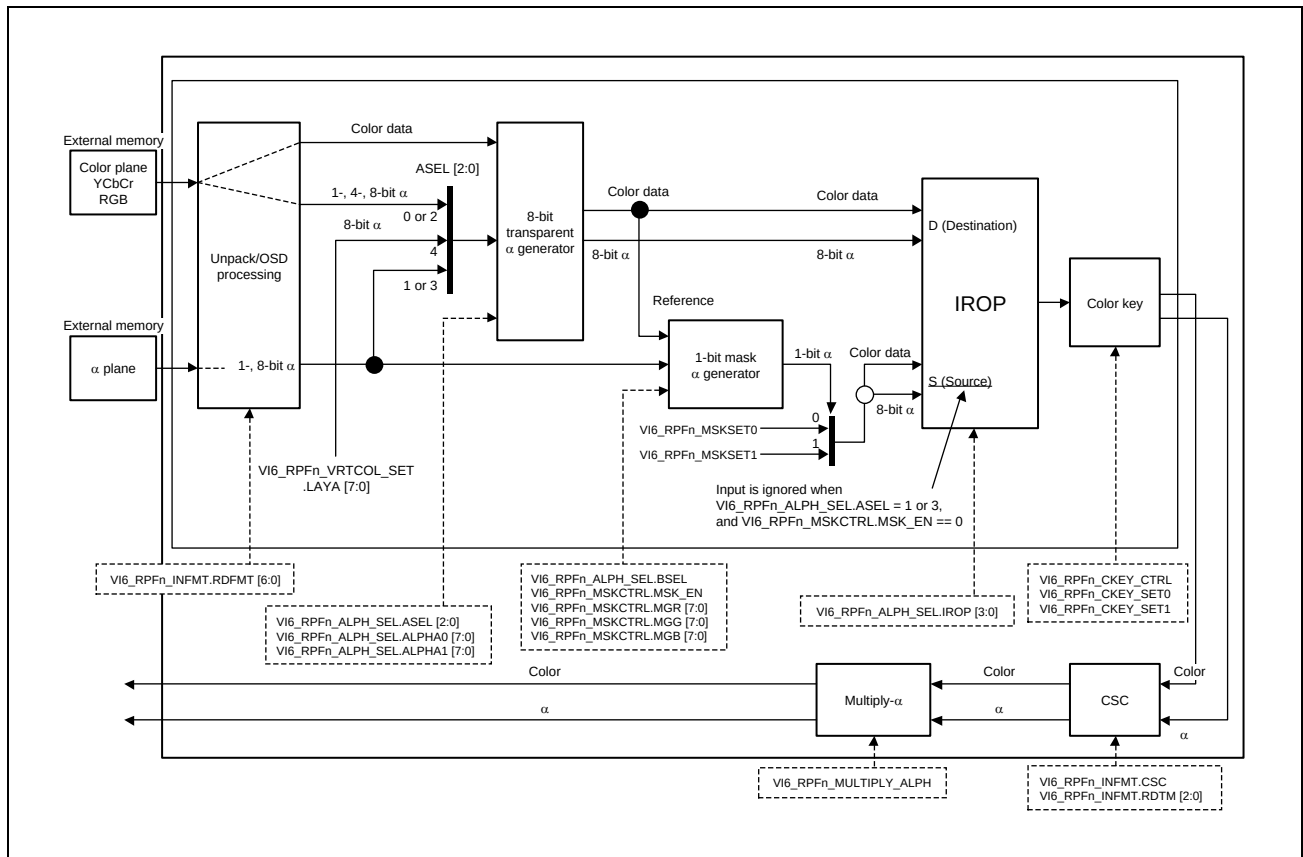

Figure 9.4-14 Configuration of alpha Selector and IROP Operation Unit in RPF
2h: 1-bit packed α + plane α (IROP != 0, 5, 10, 15) The 1-bit packed α input is converted by the 8-bit transparent α generator shown in Figure 9.4-14 according to the ALPHA0/1 setting into the 8-bit α value as transparency information. Select the packed input format that includes a 1-bit α field. When VI6_RPFn_MSKCTRL.MSK_EN is 0b and the IROP value is not 0, 5, 10, or 15, the α plane should be read as mask information. Specify the number of α data bits (BSEL) stored in the α plane and the α plane read start address (VI6_RPFn_SRCM_ADDR_AI). When the IROP bits are set to 0, 5, 10, or 15, the α plane is not read. 3h: 1-bit plane α The 1-bit α plane is read from external RAM and converted by the 8-bit transparent α generator shown in Figure 9.4-14 according to the ALPHA0/1 setting into the 8-bit α value as transparency information. When the packed RGB format has a bit field for α, the information in the α bit field is discarded. The α plane read start address (VI6_RPFn_SRCM_ADDR_AI) should be specified. When VI6_RPFn_MSKCTRL.MSK_EN is 0b, IROP operation cannot be executed; set the IROP bits to 0b in this case. When VI6_RPFn_MSKCTRL.MSK_EN is 1b, IROP operation can be executed. 4h: Fixed α The fixed α value (VI6_RPFn_VRTCOL_SET.LAYA value) is output from the RPF. IROP operation cannot be executed; set the IROP bits to 0 in this case. 5 to 7: Setting prohibited.
Figure 9.4-14 shows the relationship between the α selector, IROP operation unit, color keying unit, and related registers. The IROP operation unit receives two inputs, source and destination. The image data input from the external memory is processed through the unpack processor and 8-bit transparent α generator and then input to the IROP operation unit as destination data. The α plane data input from the external memory is sent to the 8-bit transparent α generator when the ASEL bits are set to 1 or 3, or sent to the 1-bit mask α generator when the ASEL bits are set to 0 or 2. For the pixel data and 8-bit α value on the source side of the IROP operation unit, either the VI6_RPFn_MSKSET0 value or VI6_RPFn_MSKSET1 values will be selected according to the 1-bit α value output by the 1-bit mask α generator.
The following describes the function of each block shown in **Figure 9.4-14**. Read the following while referring to the figure as necessary.
As shown in **Figure 9.4-14**, when VI6_RPFn_ALPH_SEL.ASEL are set to 1 (8-bit plane α) or 3 (1-bit plane α), the α plane read from the external RAM is sent to the 8-bit transparent α generator as transparency information. When VI6_RPFn_MSKCTRL.MSK_EN is set to 0, the 1-bit α for masking is generated according to the input α plane (refer to **(8) RPFn Mask Control Registers (LCDC_VSPD_VI6_RPFn_MSKCTRL)**), but the 1-bit mask α generator does not refer to the input α plane because it is input to the 8-bit transparent α generator as transparency information. Accordingly, the 1-bit mask α generator does not generate a 1-bit α for masking and the data on the source side becomes invalid; that is, IROP operation cannot be executed. Set the IROP bits to 0 in this case. In contrast, when VI6_RPFn_MSKCTRL.MSK_EN is set to 1, the 1-bit mask α generator creates α data for masking according to the pixel data instead of the input α plane data, and IROP operation can be executed in this case.
For the handling of the α values shown in **Figure 9.4-14** and **Table 9.4-14**, the relationship between the RPF input format and RPF output α value is shown in **Table 9.4-15**. Where only bit names are shown in the table, the bits are in VI6_RPFn_ALPH_SEL described in this section.